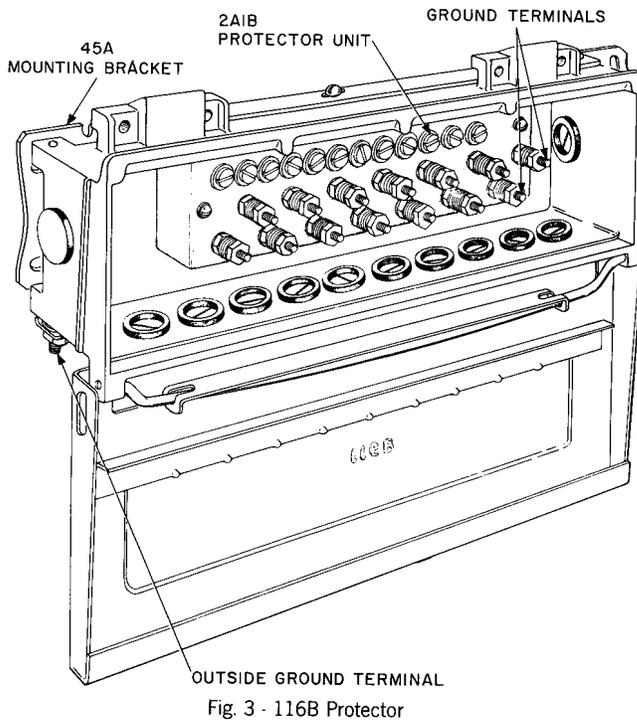

Fig. 4—116B Protector
2.04 The 116B Protector shown in Fig. 4 consists of an aluminum housing containing a connecting block equipped with six pairs of binding posts, two terminals for ground connections, and twelve 2A1B Protector Units. The housing is similar to that of an NC-10 Cable Terminal. A ground terminal is also located on the outside of the box. A 45A Bracket is furnished to mount the terminal on a pole or crossarm.